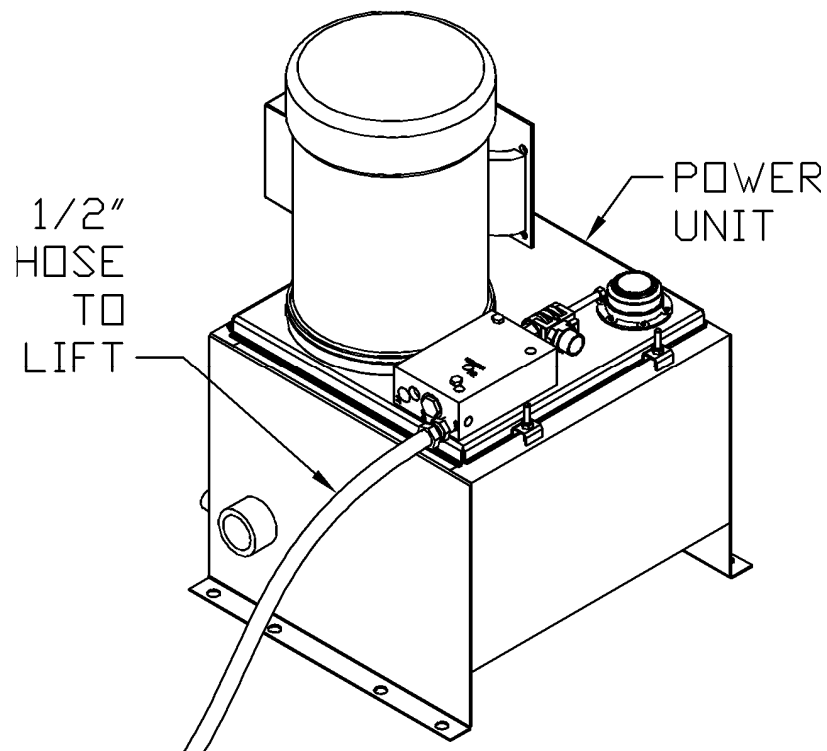

Figure 26 Standard Power Unit – 5HP/230VAC/1ph
F. MOUNT POWER UNIT & HOSE REEL (Reference Figures 26 & 27)